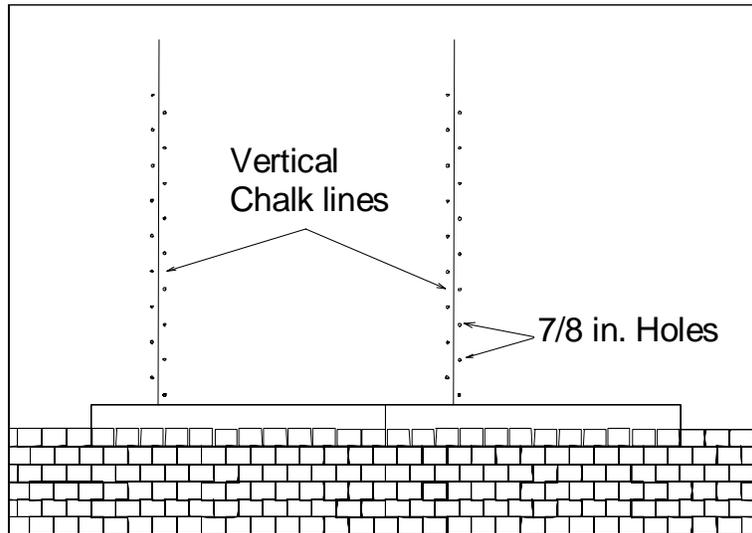

Figure 14
- 5.6 Finish first row with asphalt shingles installing them in the conventional manner, butting the asphalt to the PV shingle, edge to edge as shown in figure 14.